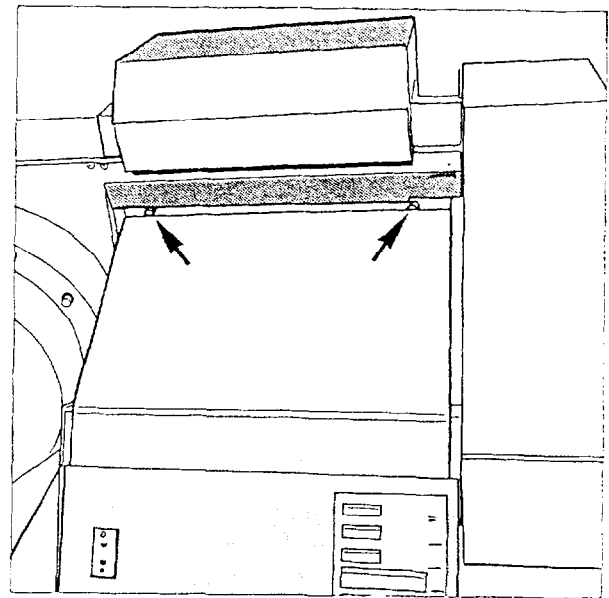

Fig. 17
- Withdraw the plastic strip from the cover panel P and attach the metal rail to the lower table side (↗/ Fig.17).